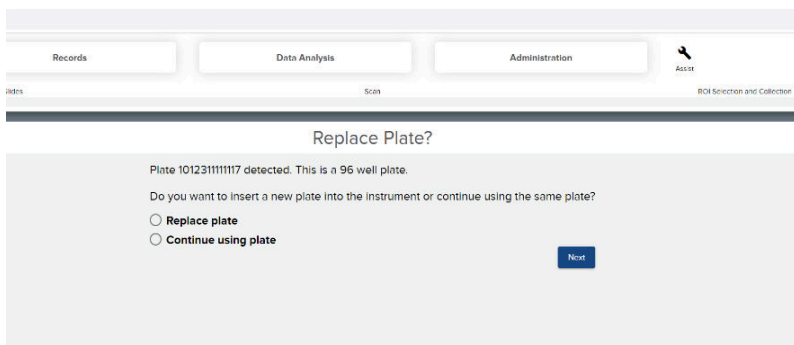

Figure 5: Replace Plate idle state
7. If the instrument still does not allow these actions, power cycle by shutting down through the software, reboot, start a new run, and pause at “Replace Plate?” screen (Figure 5). This is an idle state.